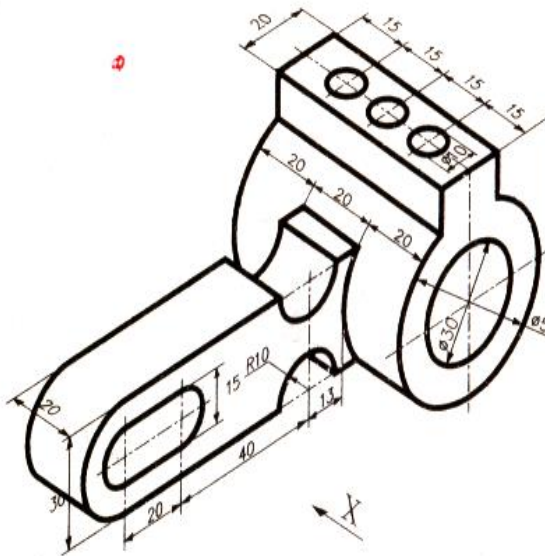

Figure 14
1. Draw the following View for Figure 14